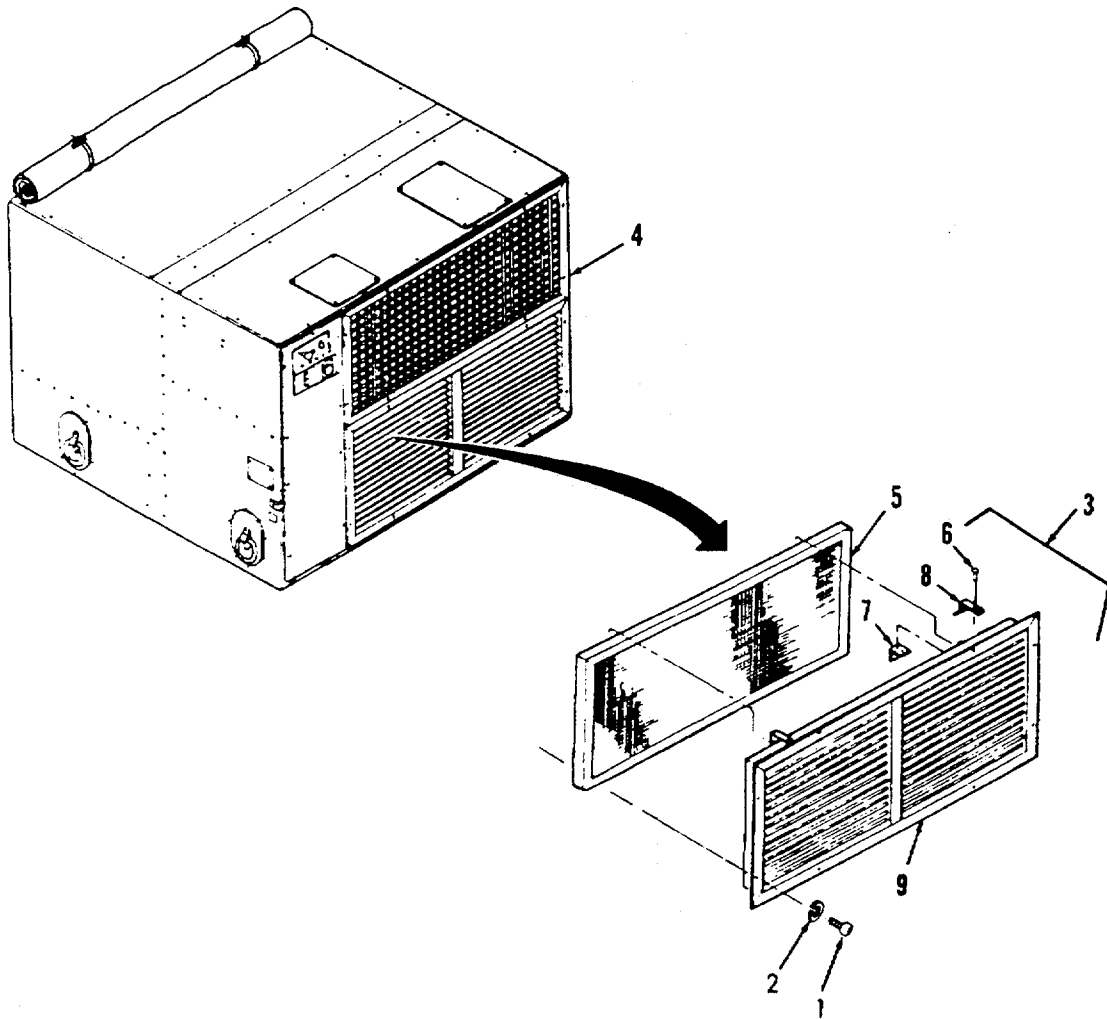

Figure 3-9. Return Air Louver.
**a. Removal.** (Refer to Figure 3-9).
- (1) Remove eight screws (1) and eight lock washers (2).
- (2) Remove return air louver (3) from unit (4).
- (3) Remove air conditioning filter (5) from return air louver (3).